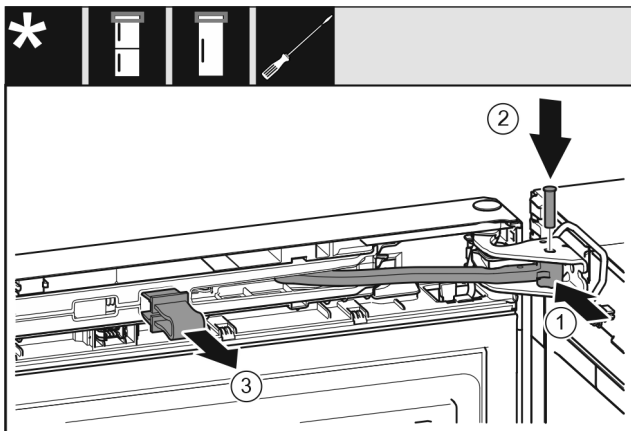

Fig. 47
- ▶ Turn the hinge in the bearing bracket. Fig. 47 (1)
- ▶ Insert the bolt in the bearing bracket and hinge. Make sure that the latching lug is sitting correctly in the groove. Fig. 47 (2)
- ▶ Remove the locking device. Fig. 47 (3)